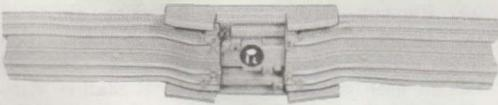

Fig. 8—Wire Splice Using No. 718 Tap
(2) When splicing a wire run, carefully place the ends of the wire over the prongs in the base of the tap. Do not cover the screw hole (Fig. 8).